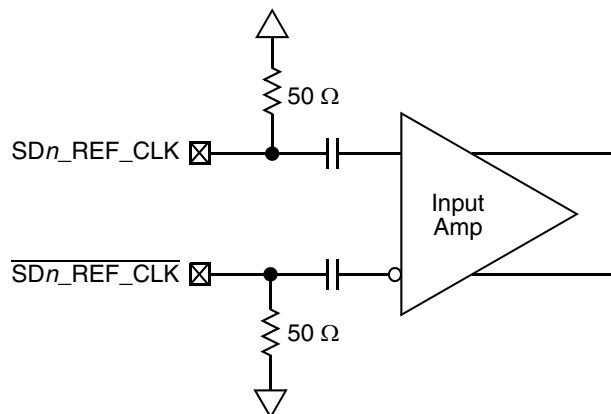

Figure 41. Receiver of SerDes Reference Clocks
Figure 41 shows a receiver reference diagram of the SerDes reference clocks.
- The SDn_REF_CLK and $\overline{SDn_REF_CLK}$ are internally AC-coupled differential inputs as shown in Figure 41. Each differential clock input (SDn_REF_CLK or $\overline{SDn_REF_CLK}$) has a 50-Ω termination to $SGND_SRDSn$ (xcorevss) followed by on-chip AC-coupling.